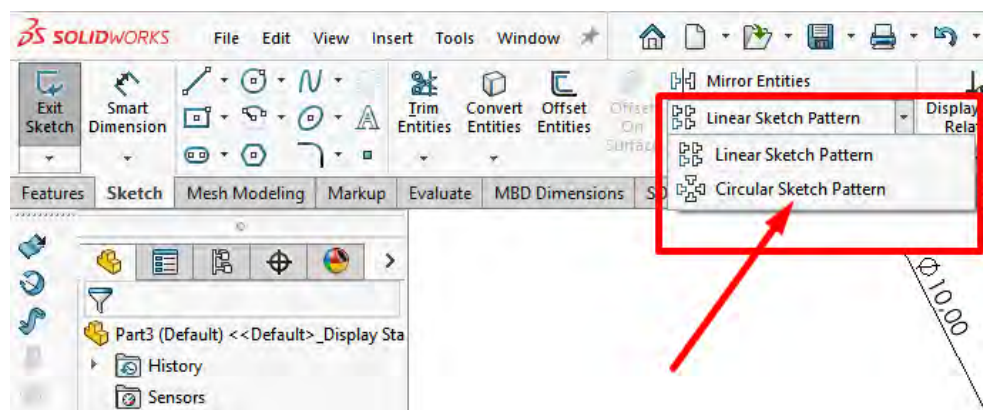

Fig. 6
- **Circular Sketch Pattern (Circular Sketch Array):** Use to reproduce elements that repeat around a center. Specify the number of instances (Figure 6).